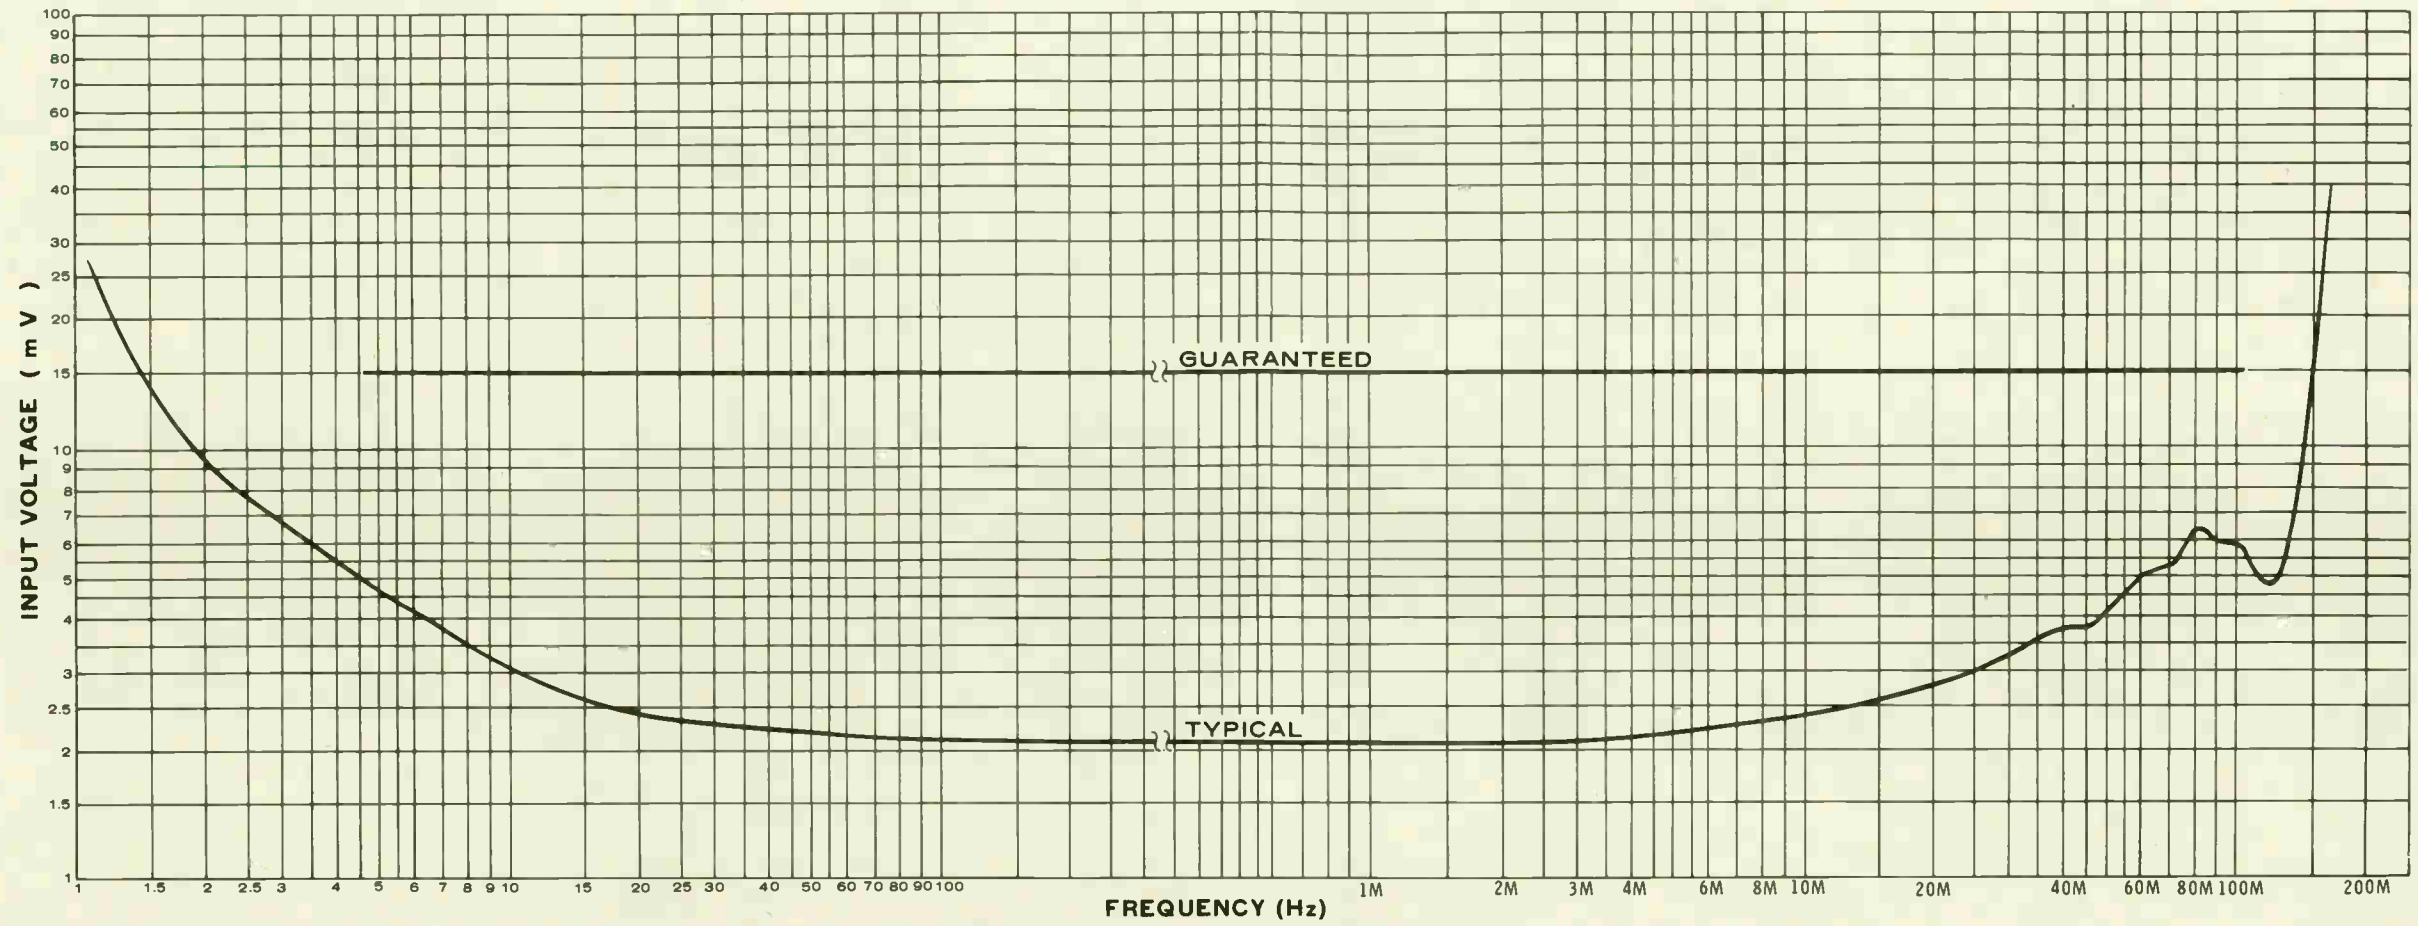

Figure 1 Input frequency response curves showing typical and guaranteed response with sensitivity control in the Preset position.
A sensitivity control allows input trigger level selection above and below the signal zero-crossing level. Refer to Figure 1 (fold-out from Page 5) for typical and guaranteed sensitivity-vs-frequency parameters. High input sensitivity and an input impedance of 1 megohm proves ideal for use with a $\div 10$ oscilloscope probe where source loading is critical.
*See Input curves Figures 1 and 2 on fold-out from Page 5. Specifications were obtained using a generator with 50 Ω source impedance. This was connected to the counter with 50 Ω coaxial cable through a 50 Ω terminator (between cable and counter).